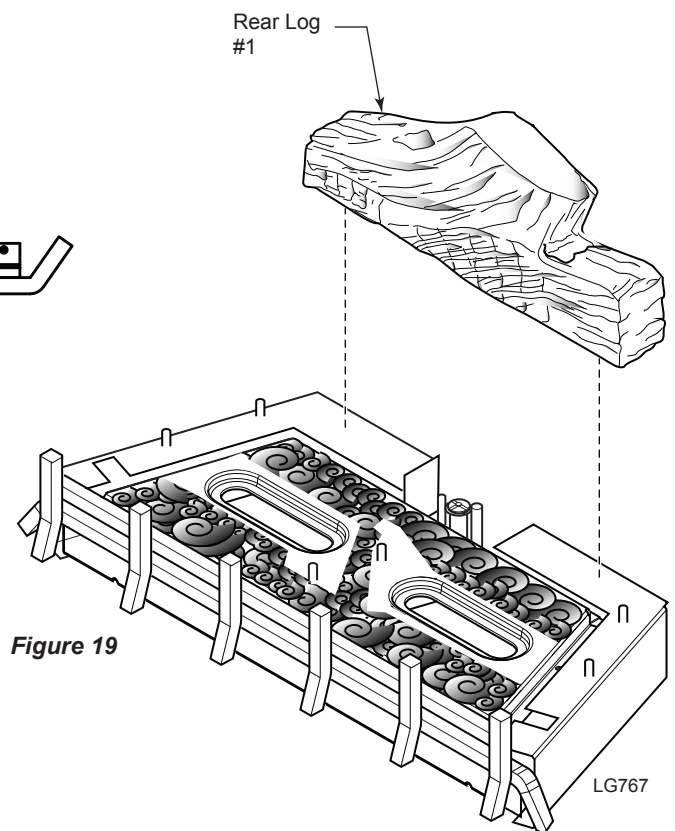

Figure 19
3. Carefully remove the seven (7) logs from wrapping.
4. Place rear log #1 against back of firebox. *Figure 19*